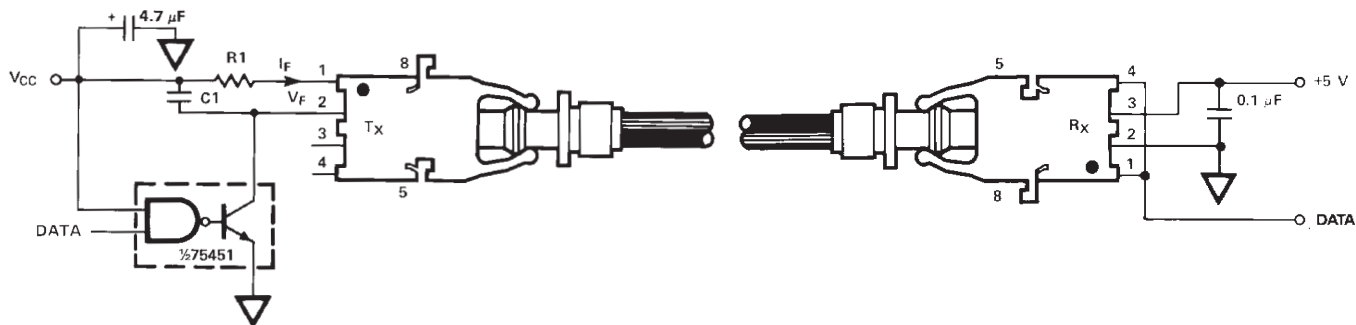

Figure 11. Required 1 Mbd interface circuit
The HFBR-25X2Z receiver cannot be overdriven when using the required interface circuit shown in Figure 11
- The LED drive circuit of Figure 11 is required for 1 MBd operation of the HFBR-25X2Z/25X4Z.